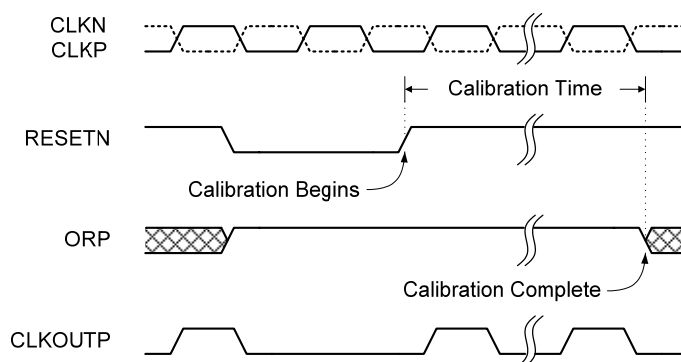

Figure 29. Calibration Timing
The calibration sequence is initiated on the rising edge of RESETN, as shown in Figure 29. The over-range output (OR) is set high once RESETN is pulled low, and remains in that state until calibration is complete. The OR output returns to normal operation at that time, so it's important that the analog input be within the converter's full-scale range in order to observe the transition. If the input is in an over-range condition the OR pin will stay high and it will not be possible to detect the end of the calibration cycle.